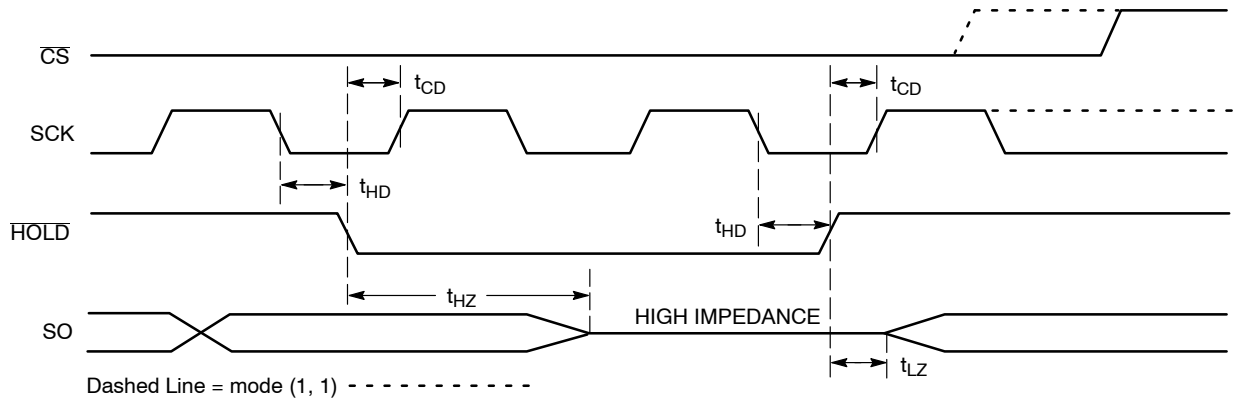

Figure 10. $\overline{\text{HOLD}}$ Timing
The $\overline{\text{HOLD}}$ input can be used to pause communication between host and NV250x0. To pause, $\overline{\text{HOLD}}$ must be taken low while SCK is low (Figure 10). During the hold condition the device must remain selected ($\overline{\text{CS}}$ low). During the pause, the data output pin (SO) is tri-stated (high impedance) and SI transitions are ignored. To resume communication, $\overline{\text{HOLD}}$ must be taken high while SCK is low.